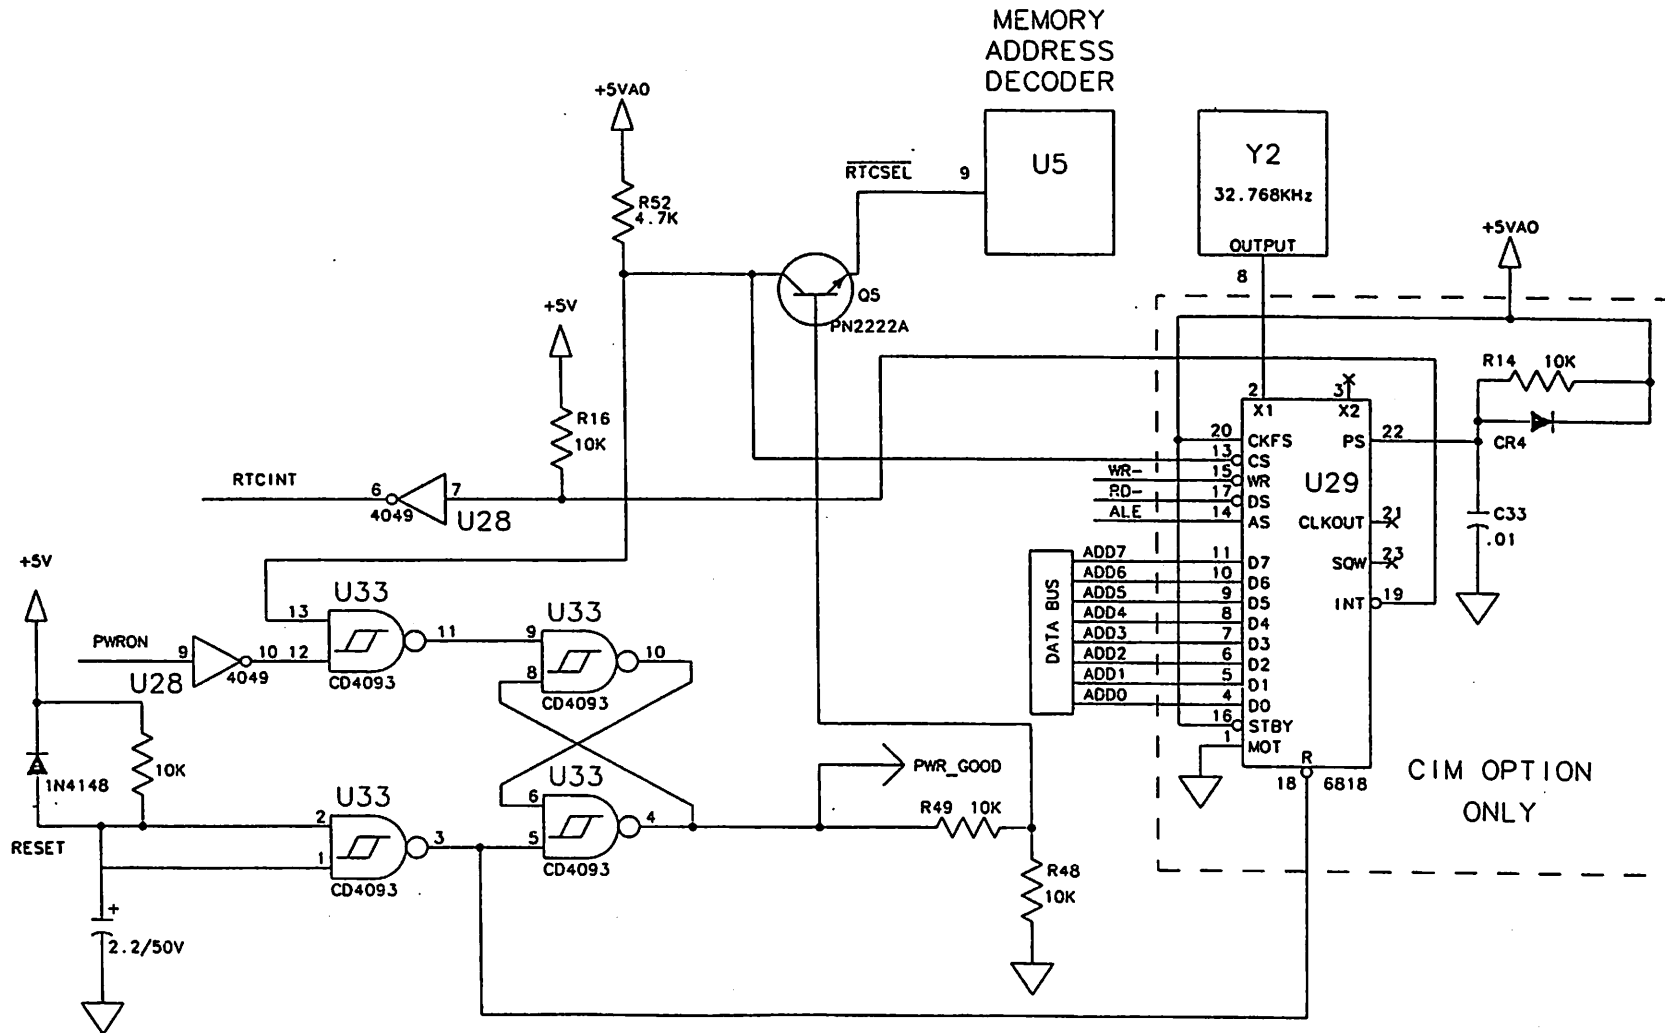

Figure 3-41. Real-Time Clock
3.11.3 Real-Time Clock (CIM Option only, figure 3-41)